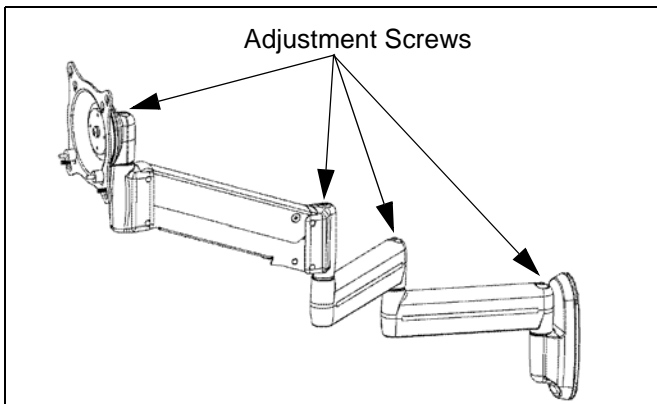

Figure 24: Pivot / Swing Arm Adjustment
1. Using 3/16" hex key, slightly loosen or tighten the adjustment screw(s) as necessary (See Figure 24).